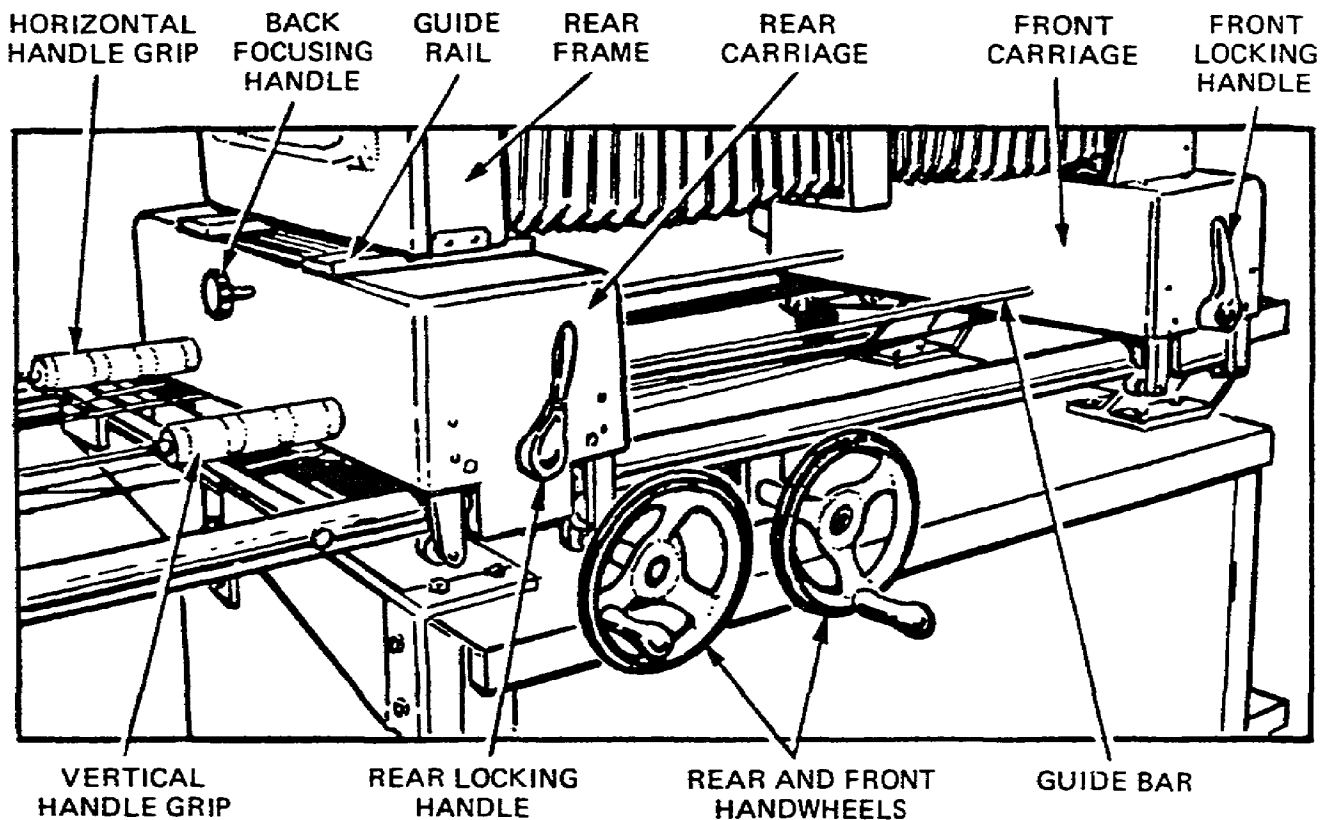

Figure 1-47. Camera Controls, partial view.
(1) 4x5-inch focusing back. The 4x5-inch focusing back is interchangeable with the 8x10-inch focusing back ((2) below). The focusing panel shield is secured within the focusing back by two springs. A ground focusing glass is mounted within the focusing panel shield. Horizontal and vertical lines on the ground focusing glass provide a scale to align the image.
(2) 8x10-inch focusing back. The 8x10-inch focusing back is interchangeable with the 4x5-inch focusing back ((1) above). The focusing panel shield is secured within the focusing back by a screw in each corner. A ground focusing glass is mounted within the focusing panel shield. Horizontal and vertical lines on the ground focusing glass provide a scale to align the image.
d. Front movement mechanisms. The front movement mechanisms provide the facilities for horizontal movement or for vertical movement of the lens assembly. Each mechanism consists of a guide bar that runs the full length of the carriage bed, a handle grip, and a gear arrangement. (fig 1-47).